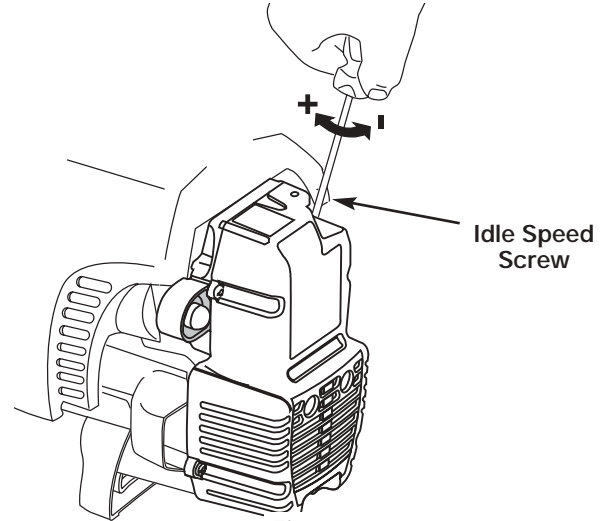

Fig. 30
The idle speed of the engine is adjustable through the air filter/muffler cover (Fig. 30).
3. Move the throttle control and let the engine idle. If the engine stops, insert a small phillips or flat blade screwdriver into the hole in the air filter/muffler cover (Fig. 30). Turn the idle speed adjuster in, clockwise, 1/8 of a turn at a time (as needed) until the engine idles smoothly.